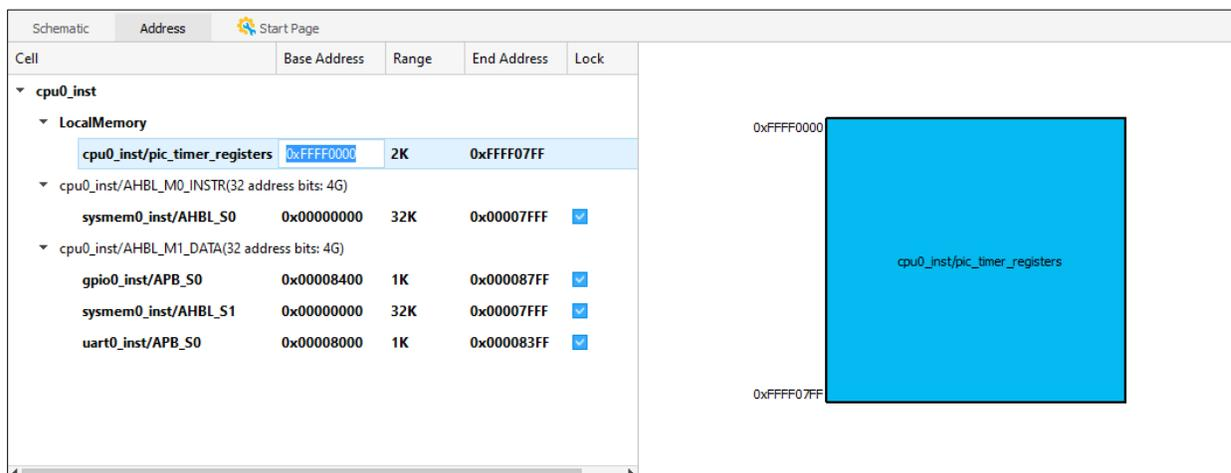

Figure 2.99. Edit Base Address
3. (Optional) Double-click the base address in Address view (Figure 2.99). Type the new value and press **Enter**.